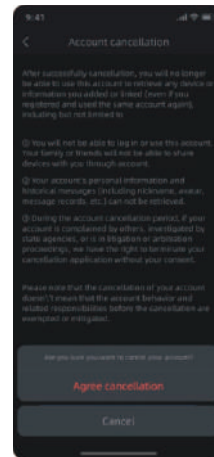

Figure 11
11) Figure 11: Click "**Agree cancellation!**" to cancel the account, return to the login page, and no longer be able to log in with this account; Click "**Cancel**" to keep the account.